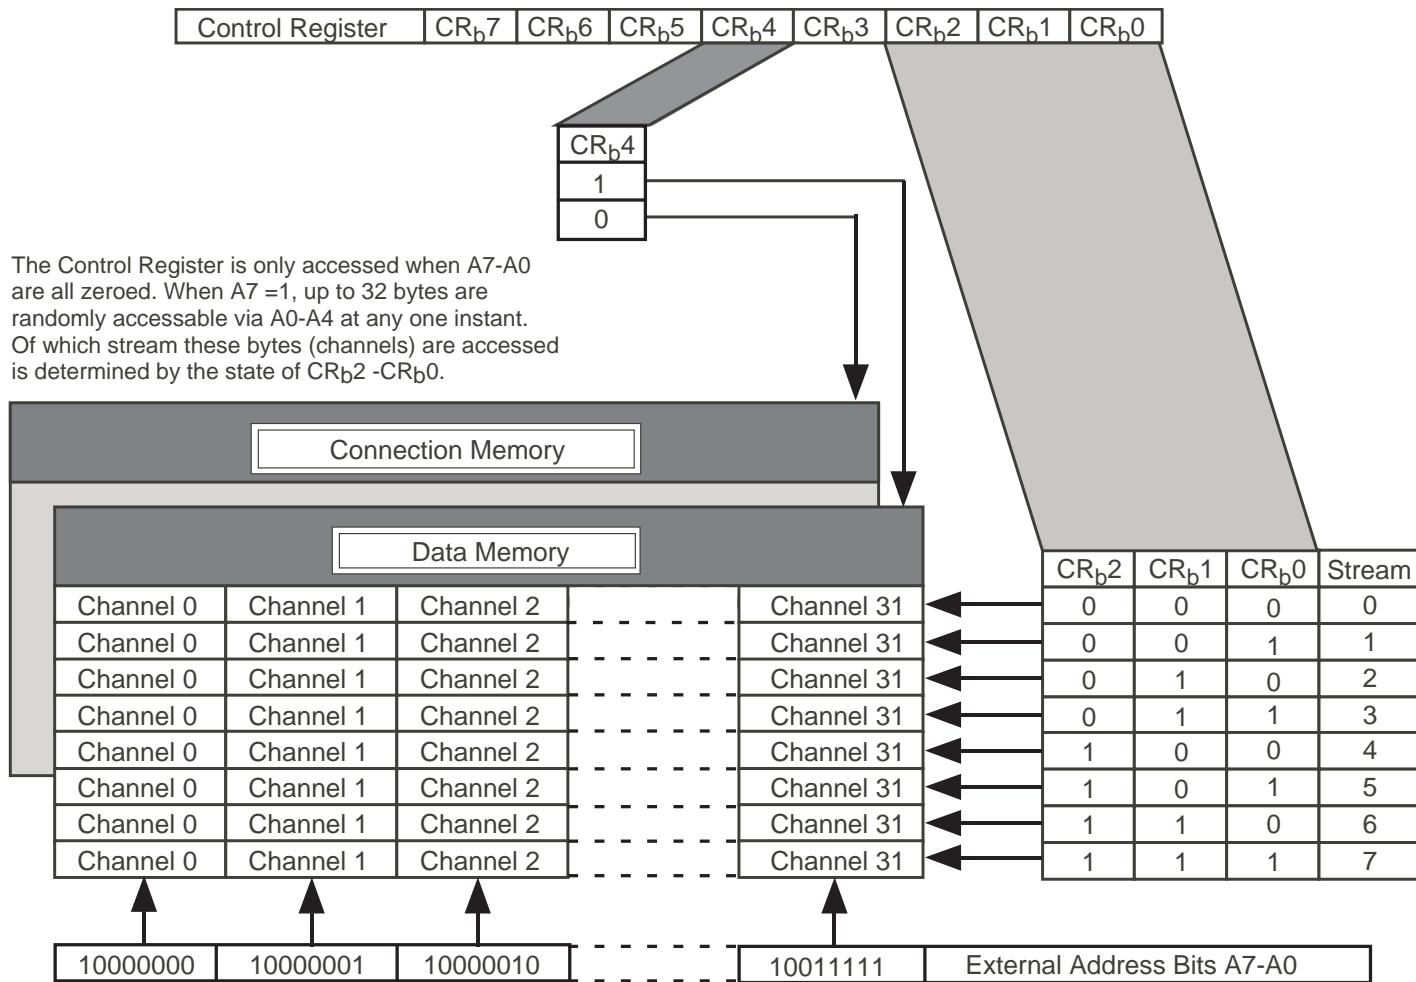

Figure 3. Addressing Internal Memories
If the A7 address input is low, then A6 through A0 are used to address the interface mode selection (IMS), control (CR), frame alignment (FAR) and frame input offset (FOR) registers (Table 4). If the A7 is high, A6 and A5 are low, then A4 through A0 are used to select 32 locations corresponding to data rate of the ST-BUS®. The address input lines and the stream address bits (STA) of the control register allow access to the entire data and connection memories. The control and IMS registers together control all the major functions of the device, see Figure 3.